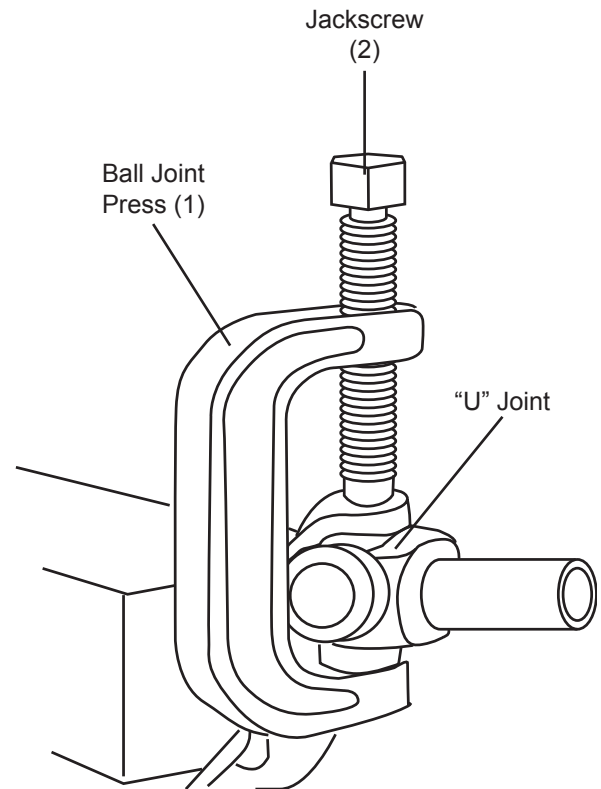

Figure 4
2. Position the Ball Joint Press around the drive shaft yoke and tighten the Jackscrew until the first bearing is removed. See Figure 4, at right.